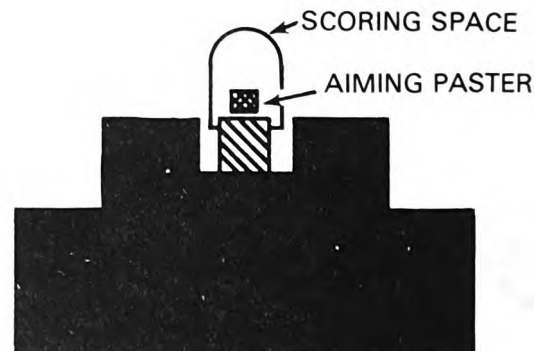

Figure 4.
(2) Sight picture. To obtain correct sight picture, center the target over the front sight blade so that it appears to rest on top of the front sight blade and on top of the rear sight slide (figure 4).